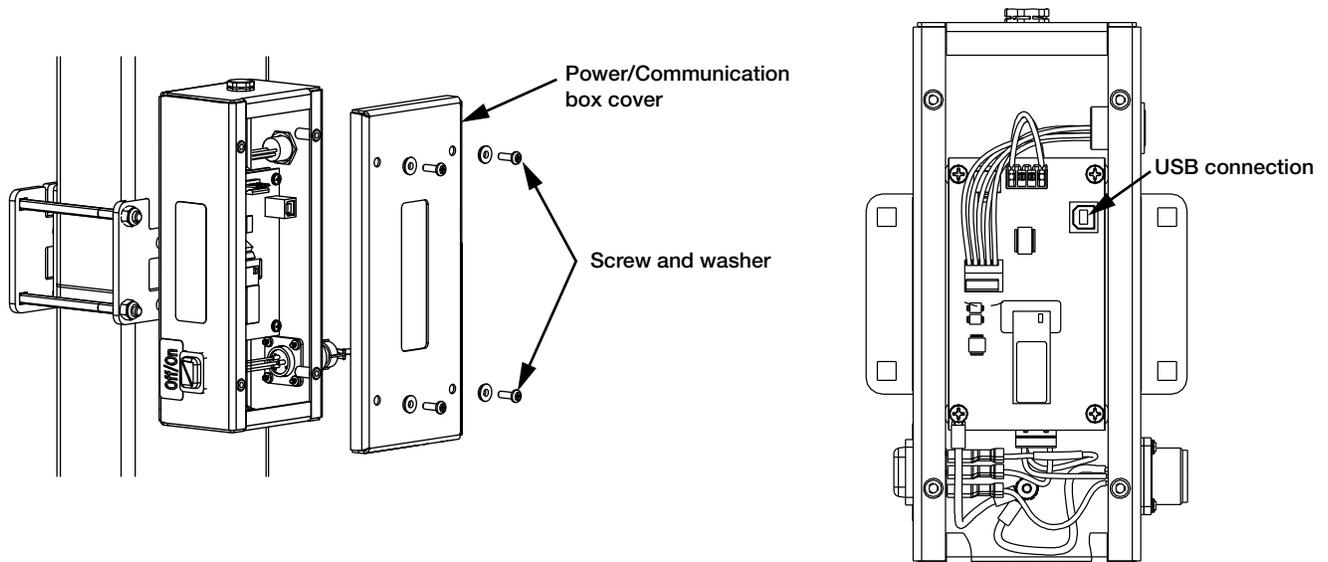

Figure 4-10. *Connect USB to Power/Communication Box (PN 153616)*
- Loosen the (4) screws on the power/communication box and remove the cover (Figure 4-10).
- Connect the USB cable to the power/communication box (Figure 4-10).